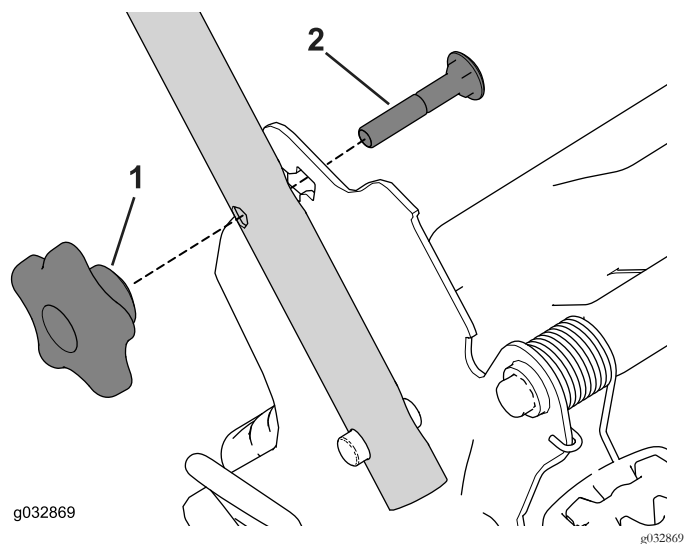

Figure 8
4. Insert the carriage bolt (with the bolt head toward the inside) through the upper or lower square hole in handle bracket and the upper hole in the handle end (Figure 8).